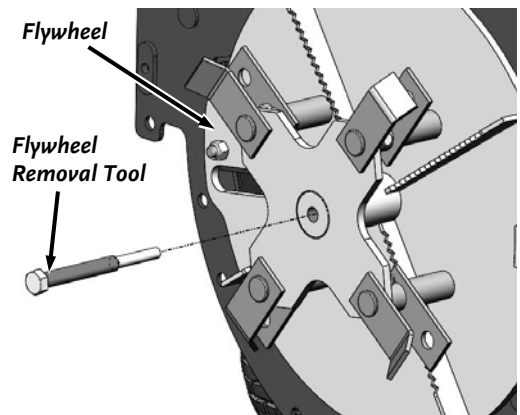

Figure 27
6. Repeat steps 2 through 4 for the other three sets of Hammers. Confirm that two of the J Hammers are facing out and the opposite two are facing in (**Figure 27**). Correct them if needed.
A flywheel removal tool is available through Generac Power Systems to allow easy removal of the flywheel (**Figure 27**). Please call us at 1-888-545-6576 to order the tool.